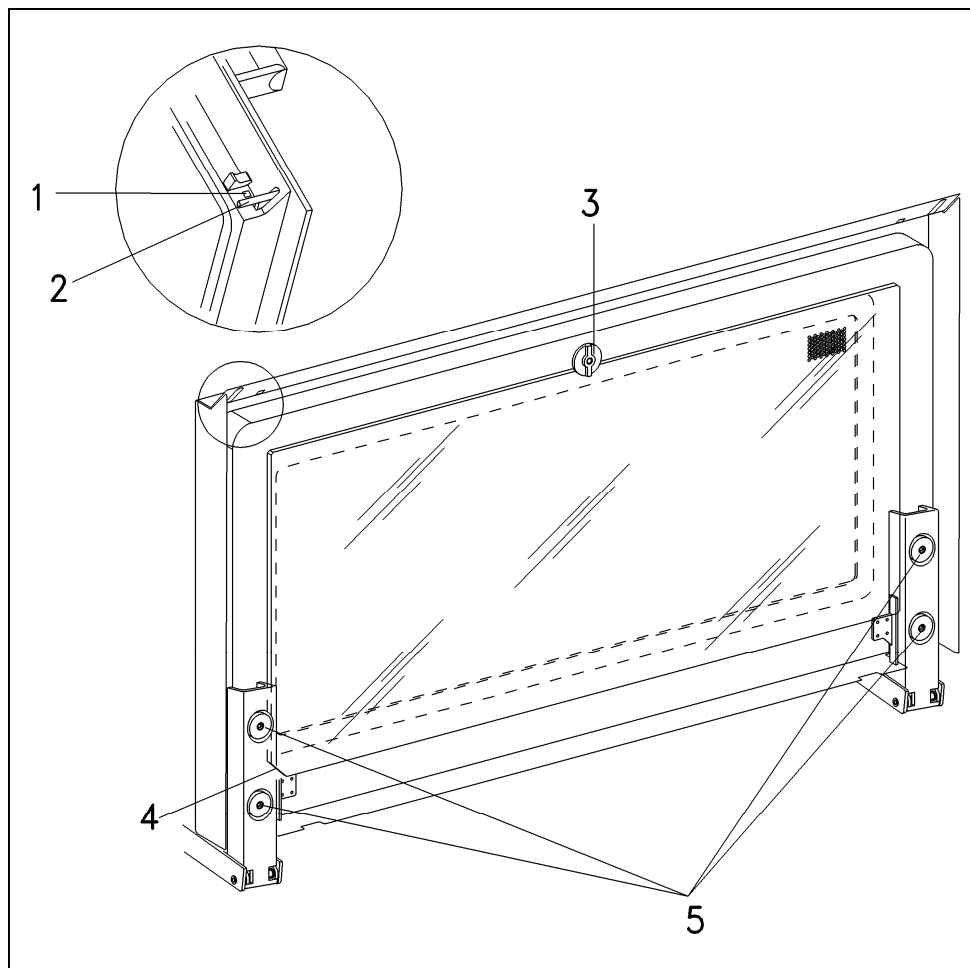

Figure 020-1: Door Pane Removal
2. Using a pointed tool, push in the two silver notches on the door's upper edge until you hear it click (Figure 020-1, Item 1).
3. Tilt the outer pane a few inches forward, pulling the pins of the door contact switches from their slots (Figure 020-1, Item 2).
5. Remove the wing nut at the top of the middle pane (Figure 020-1, Item 3).
When re-installing the middle pane, make sure that the beveled corner is at the lower left (see Figure 020-1, Item 4).